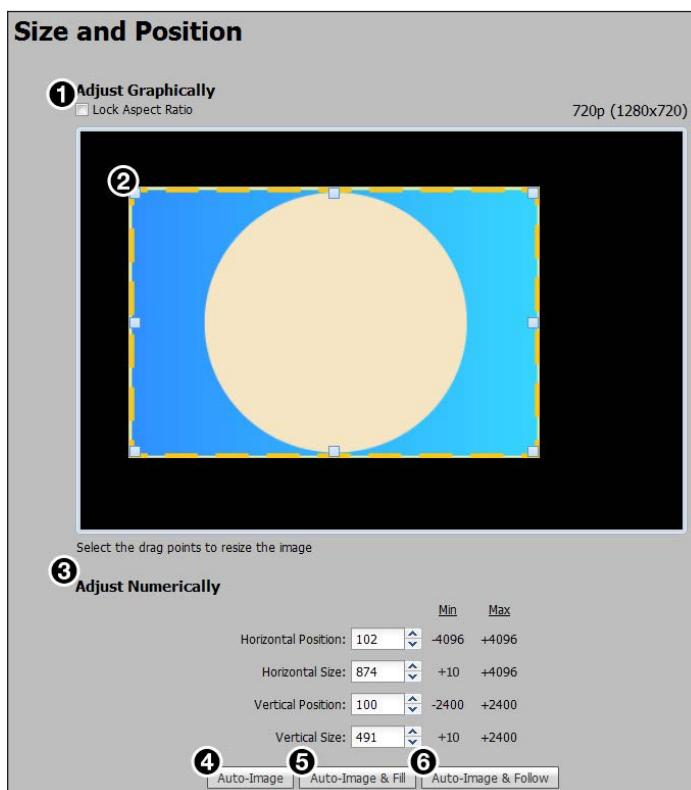

Figure 69. Size and Position Page
If desired, click the **Lock Aspect Ratio** check box (see figure 69, ①) to constrain proportions.